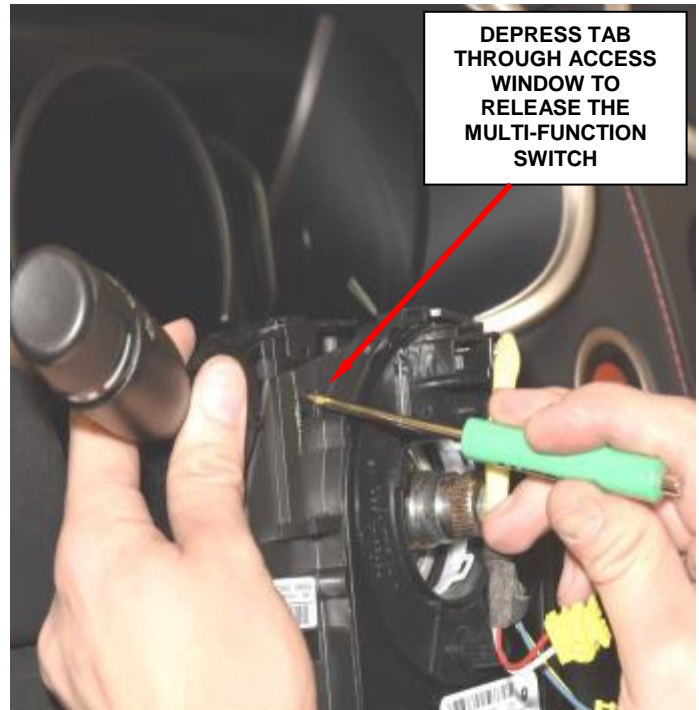

Figure 6 - Multifunction Switch Removal
14. Working through the access window of the mounting bracket integral to the left side of the clockspring, depress the tab of the latch feature integral to the multi-function switch housing far enough to disengage the latch (Figure 6).
27. Position the multi-function switch housing over the receptacle in the mounting bracket integral to the left side of the **NEW** clockspring (Figure 6).